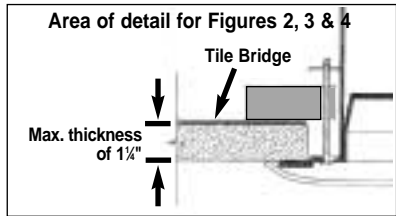

FIG. 3
**Figure 3:** Enclosure installation from above ceiling using the bridge (new construction). Rotating clamps are used to pre-mount tile bridge to enclosure, allowing system to be positioned in ceiling before tiles are set. Please note maximum ceiling thickness in this application is 5/8" to allow grille studs to mount into enclosure.